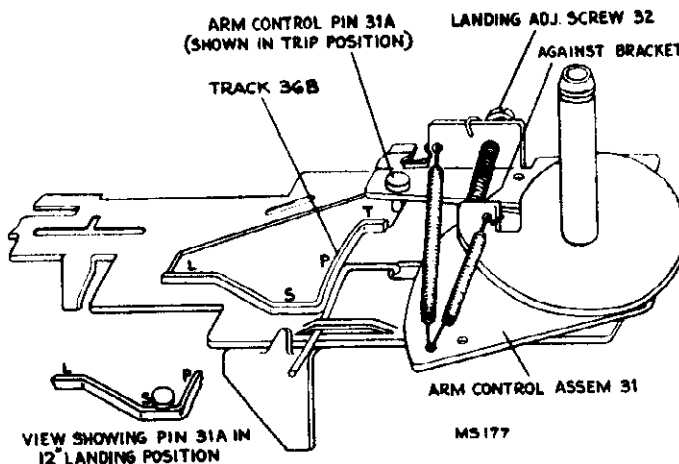

FIG. 8
1. With the mechanism out of cycle, turn adjustment screw 32, fig. 8, clockwise as far as it will go, then turn counterclockwise two or three full turns.
3. Press down on the reject button and rotate the turntable by hand, causing the mechanism to cycle until the pickup is about to land on the record. In this position, the arm control pin 31A is in a position on track 36B as indicated by "s" and adjustment screw 32 remains against bracket 31C as indicated in fig. 8.
The exact landing adjustment can be made by pressing the reject button and rotating the turntable by hand until the pickup is about to land. Then turn adjustment screw 32, fig. 8, until the sapphire is directly above the starting groove of the record. If the mechanism continues to land incorrectly after this adjustment has been made, compensate the difference by turning the screw 32 slightly. Turning screw counter-clockwise will move the landing towards the center post.